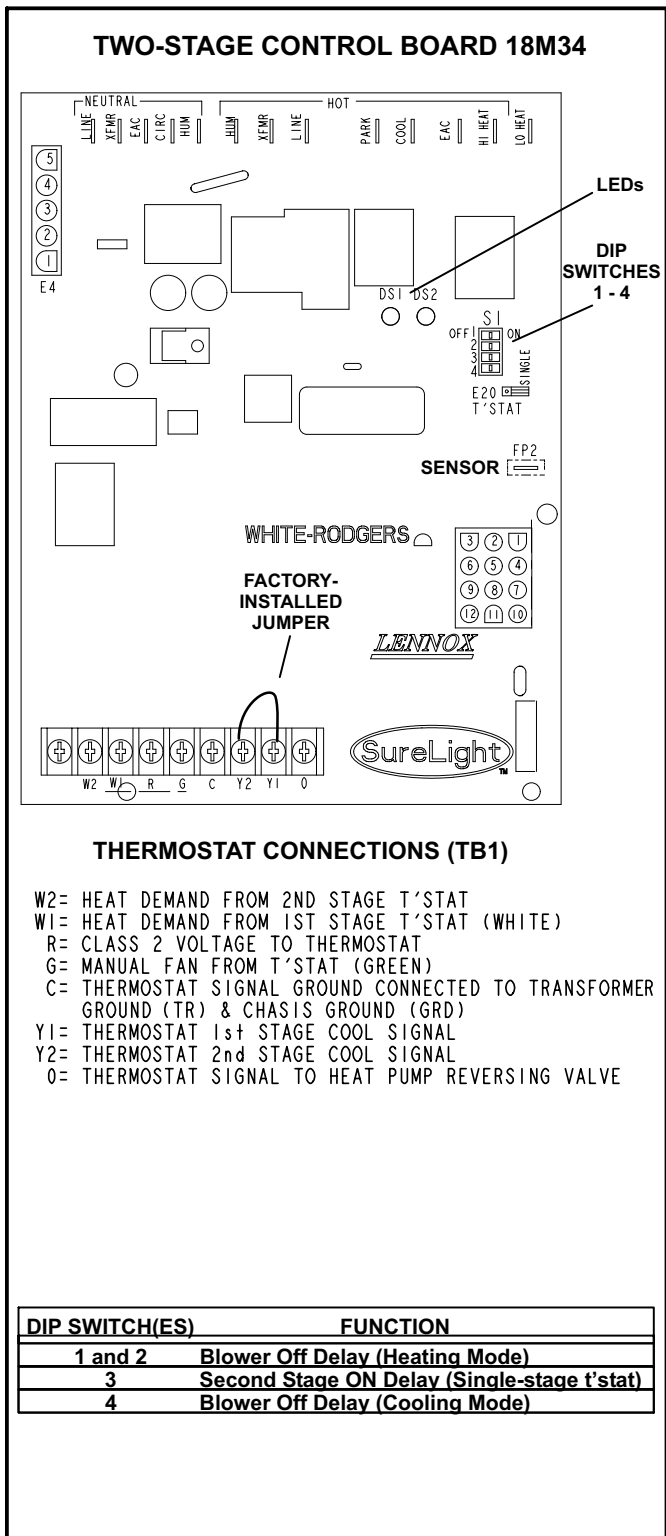

FIGURE 4
All G60DF units are equipped with the Lennox two-stage integrated SureLight control board. The system consists of a ignition control board (figure 4 with control terminal designations in tables 3, 4 and 5) and ignitor (figure 8). The board and ignitor work in combination to ensure furnace ignition and ignitor durability. The board controls all major furnace operations. The board features two LED lights, DS1 and DS2 for troubleshooting. The board also has two accessory terminals rated at (1) one amp each. See table 6 for troubleshooting diagnostic codes.
The control can be utilized in two modes: SINGLE-STAGE thermostat or TWO-STAGE thermostat. The thermostat selection jumper E20, located just below dip switches 1 through 4 (figure 4), must be positioned for the particular application. The jumper is factory set on "TWO" for use with a two-stage thermostat with two stage heat. Re-position jumper to "SINGLE" for use with a single stage thermostat with two stage heat.
Two diagnostic LED'S are located on the two-stage integrated control board. See figure 4. These light flashes correspond with the codes detailed in table 6.
Diagnostic LEDs are labeled DS1 and DS2. See figure 4 for location of diagnostic LEDs.